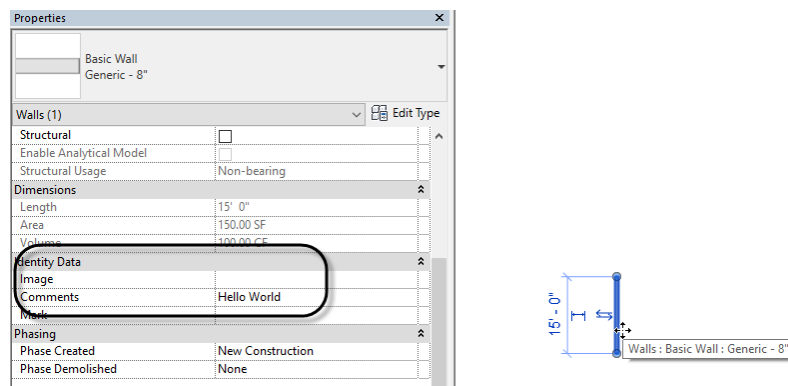

Figure 5
7. Select the wall onscreen in Revit and then on the Properties palette, look at the Comments field (see Figure 5).